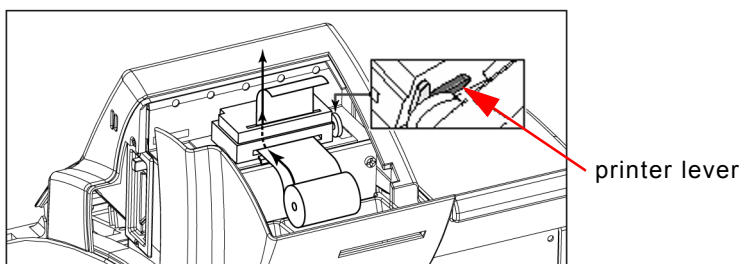

Fig. 18
- Make sure that the printer lever is in the "down" position (see Fig. 18).
- Feed in the beginning of the paper according to the sticker on the inside of the printer cover (see Fig. 18).